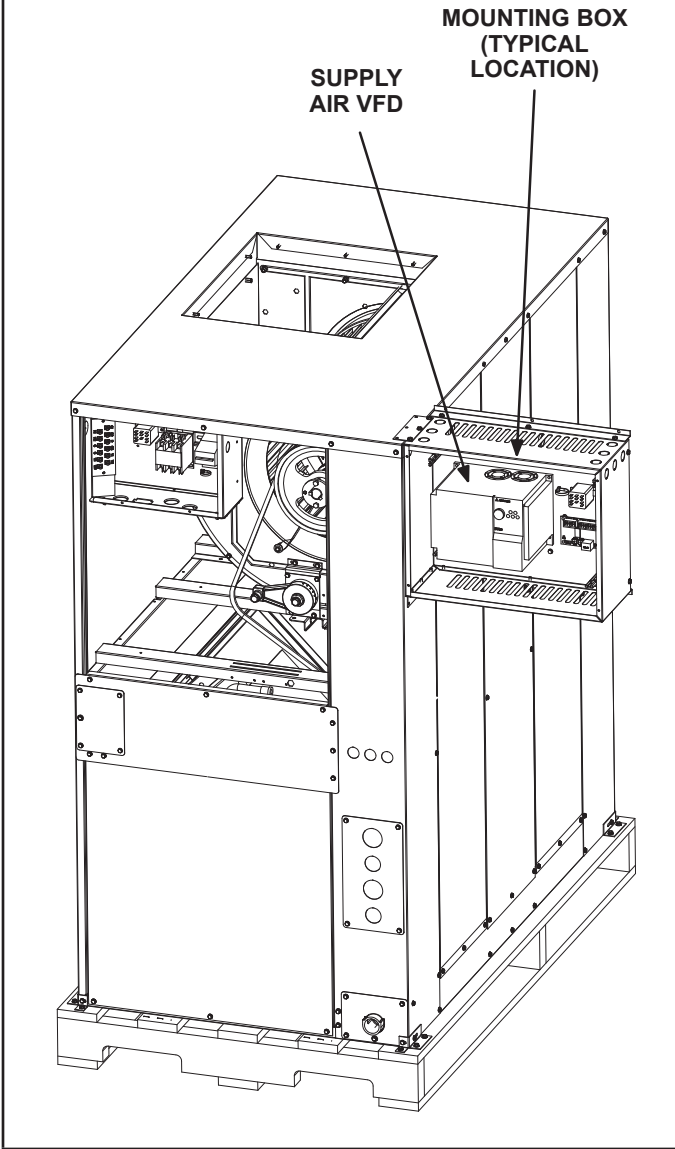

FIGURE 1
- 1 - Disconnect all power to the unit and **WAIT AT LEAST 10 MINUTES** before opening the VFD cover. See figures 1 through 4 for location.